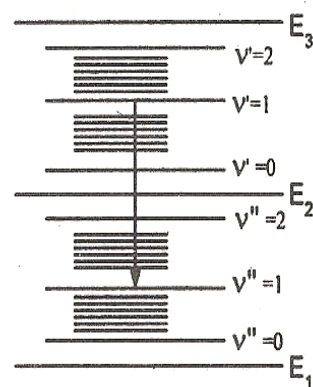

Fig. 3.11
- (2) Transitions between vibration levels of different electronic state (Fig. 3.11)